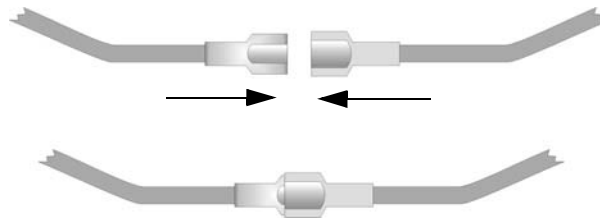

Figure 4-6 Splicing Control panel Battery Cable to RBB or AB-55 Battery Cable Extenders
2. Connect the main control panel battery cables to the battery cable extenders as shown in Figure 4-6.